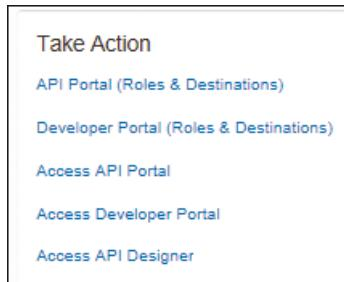

Figure 9.46 Landing Page of SAP API Management with Overview of Possible Actions
4. On the next screen, select the **Access API Portal** link (see Figure 9.46).